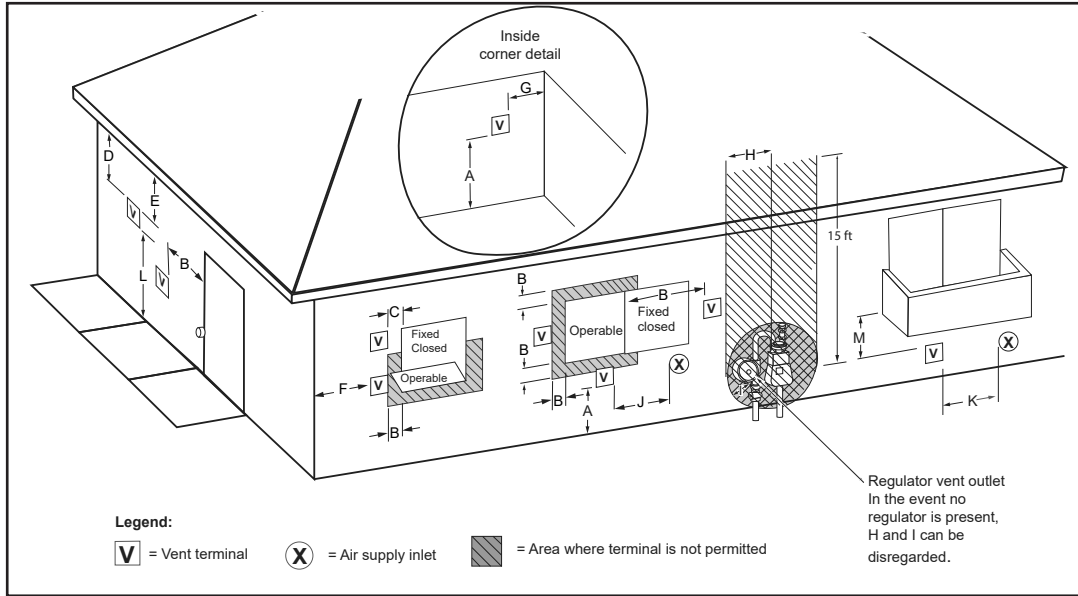

Figure 27. Power Vent Using Outside Air
2. If installing only vent (exhaust) piping in a Power Vent configuration through a sidewall; ensure that all exterior sidewall clearance requirements for the termination, shown in **Figure 27** (page 28), are being maintained. These clearances and those cited by local and national codes must be maintained.